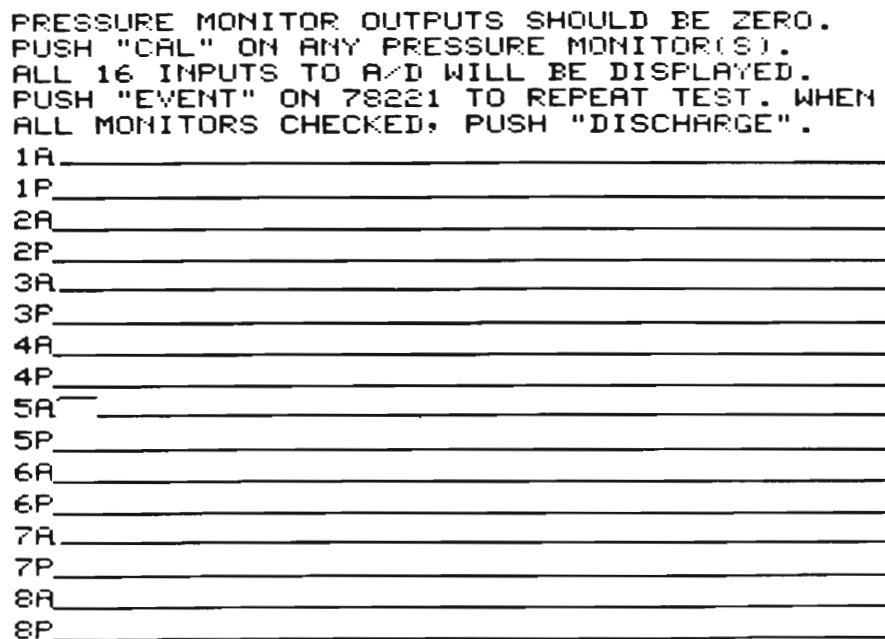

Figure 3-16. Pressure Monitor Test CAL Signal, Bed 5
3-49. If all multiplexer channels test normal, disconnect the Pressure Test Cable and reconnect the system cables at the 91000A and 12554A circuit cards. Push RUN to display the message shown in Figure 3-16 at 78512. This display allows testing the system pressure cabling from the bedsides to the computer. This test should be performed following system installation, or whenever a pressure problem appears and all previous pressure tests have run correctly. Proceed as follows:
- c. Verify that the CAL pulse appears somewhere along the display for the bedside being tested. Figure 3-16 shows an example of this pulse appearing for arterial pressure at bedside 5. Note that all other channels have straight lines across the display. A CAL pulse appearing on any channel other than the one being tested indicates system miswiring. Lines at the display will be unpredictable if the lines are "floating" due to a 78205 bedside module being unplugged.